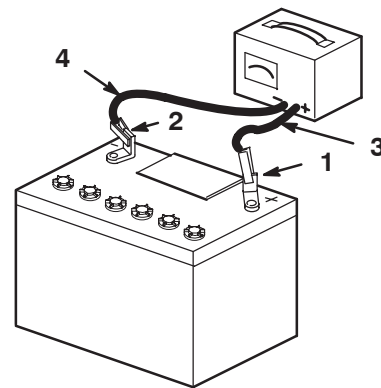

Figure 3
3. Connect a charger to the battery (Fig. 3) and charge it for a minimum of 1 hour at 6 to 10 amps.
4. When the battery is fully charged, unplug the charger from the electrical outlet, then disconnect the charger leads from the battery posts (Fig. 3).